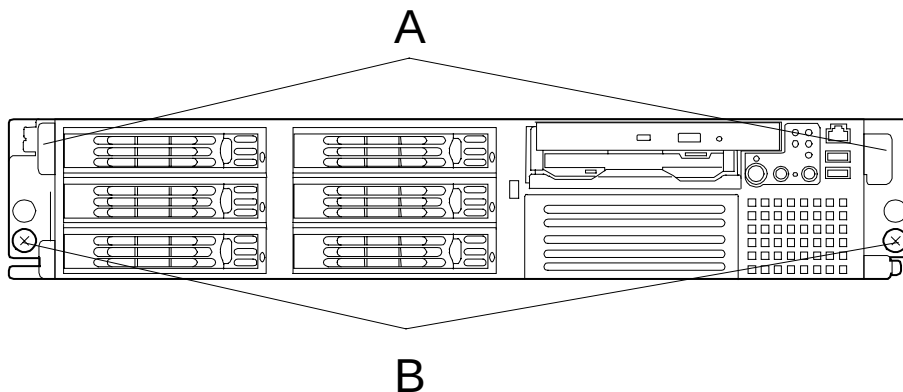

Figure 2-32. Server handles and Thumbscrew Locations
4. Loosen the two front thumbscrews (Figure 2-32, B) securing the server to the rack.
5. Holding the handles (Figure 2-32, A), slowly and carefully pull the server out of the rack. A click is heard as the slide rails lock in the extended position.